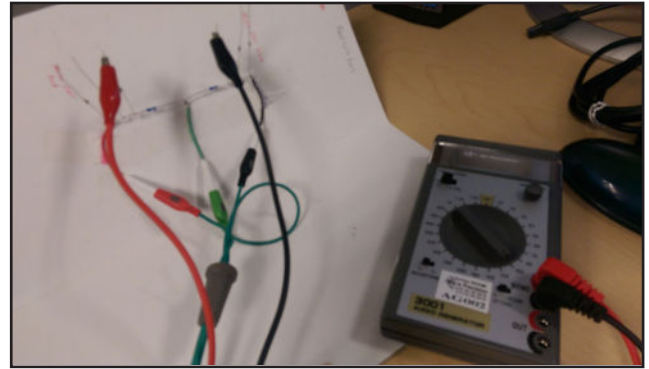

FIGURE 7
7. Make certain the Audio Signal Generator is set up per **sEMG TEST PROCEDURES steps 1, a) through 1, g)**. Connect the Audio Signal Generator Test Leads from the Generator SYNC Ports to the Attenuator (make certain test leads are connected red to red and black to black). **See Figure 7.**